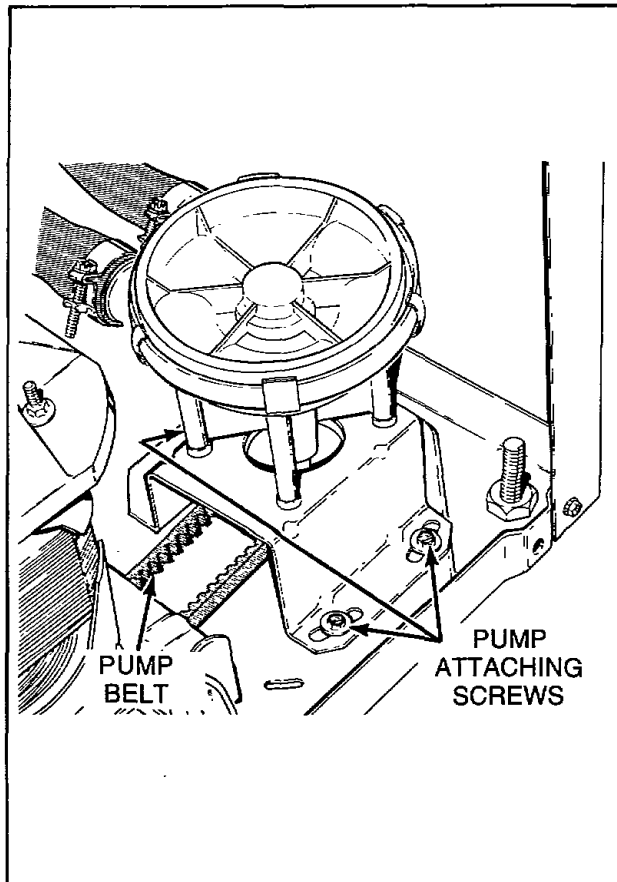

Figure 15
- Remove the two front mounting screws and loosen the rear mounting screw holding pump and bracket to washer base, *Figure 15*, shift pump assembly toward motor to loosen belt tension.
- Remove two front mounting screws and loosen the rear mounting screw holding pump and bracket to washer base, *Figure 15*, pivot entire assembly toward motor to loosen belt tension.
- d. Remove the two front mounting screws and loosen the rear mounting screw holding pump and bracket to washer base, *Figure 15*, shift pump assembly toward motor to loosen belt tension.
- d. Remove the two front mounting screws and loosen the rear mounting screw holding pump and bracket to washer base, *Figure 15*, pivot entire assembly toward motor to loosen belt tension.